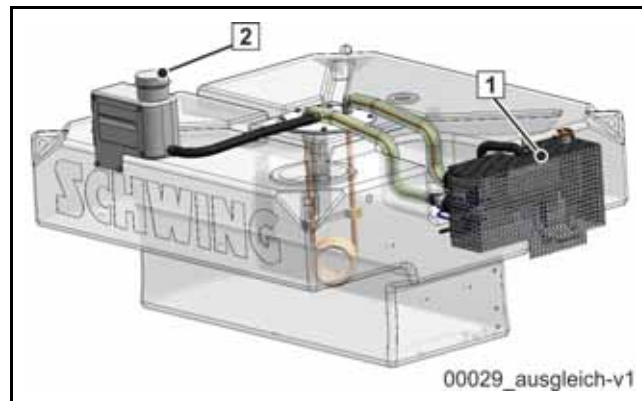
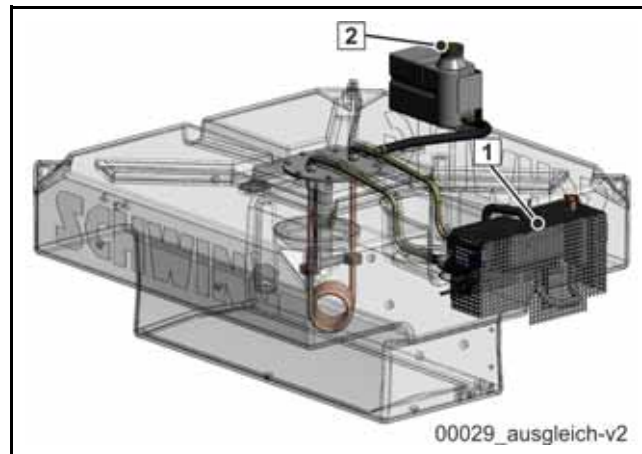

Fig. 533
Fig. 534
The water heater **(1) (Fig. 533)** is a piece of special equipment.
There are two possible installation points for the expansion tank: (2) (**Fig. 533**) or (**Fig. 534**).
- Make sure there is enough fluid in the heating circuit's expansion tank (2).